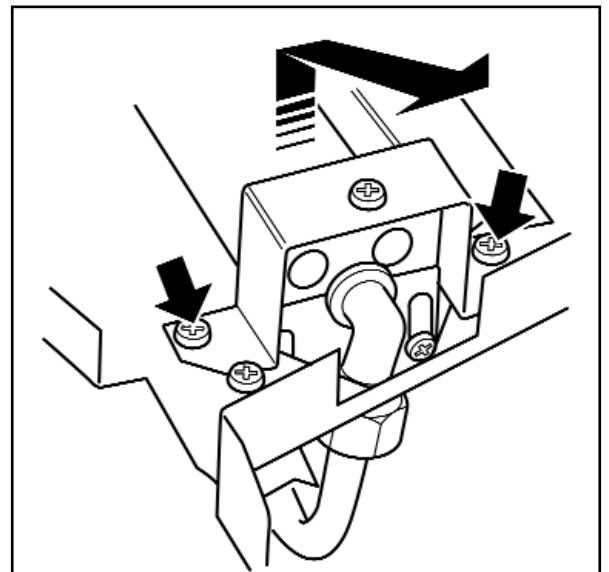

Figure 17. Removal of burner
(See figure 17).
3. Remove the two screws from the burner clamping plate (See figure 17)